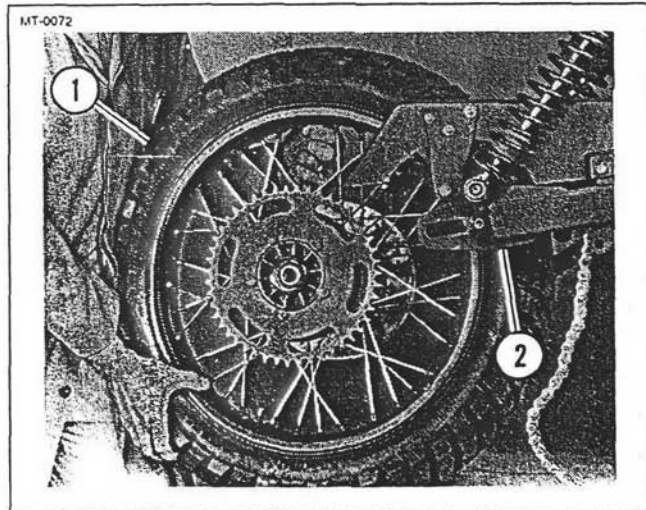

Figure 5-47. Positioning Wheel and Tire
2. See Figure 5-47. Position rear wheel and tire (1) in swing arm (2).